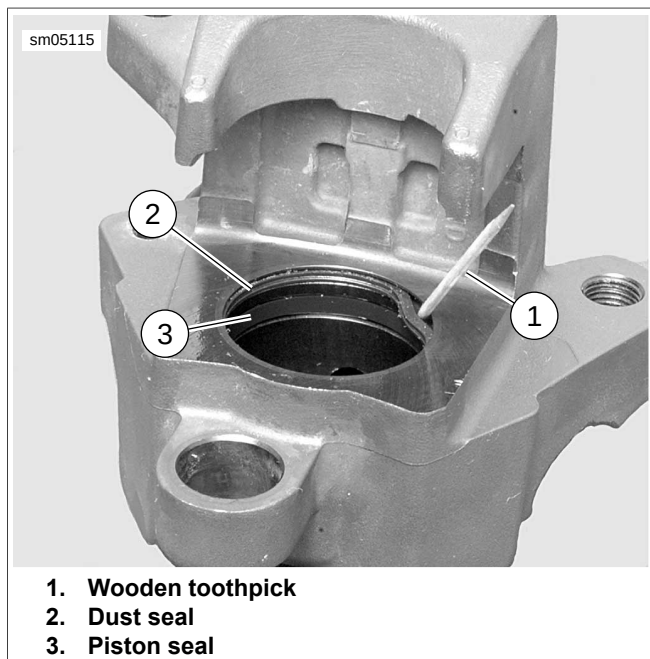

Figure 2-117. Caliper Seals
9. See Figure 2-117. Using a wooden toothpick (1), remove dust seal (2) and piston seal (3) from caliper bore. Discard seals.